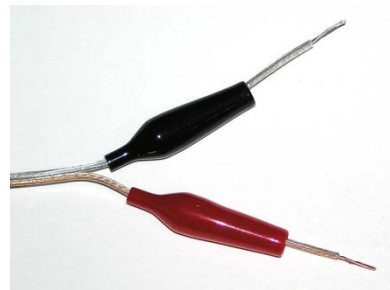

Figure 3.2-1: Alligator Clip Covers Installed on Power Cord Wires
4. On one end of the cord, slide the red alligator clip cover (small end first) onto the positive wire, as shown in Figure 3.2-1. Slide the black alligator clip cover onto the other (negative) wire of the power cord.